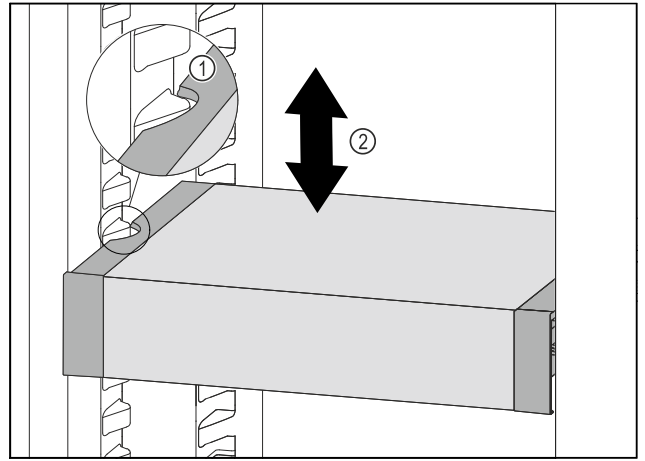

Fig. 106
- ▶ Pull VarioSafe forwards until the recesses in the side of the VarioSafe are at the level of the support rib in the refrigerator compartment. Fig. 106 (1)
- ▶ Move VarioSafe up or down in the refrigerator compartment until the desired height is reached. Fig. 106 (2)